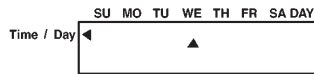

fig.12
- 2) Move it using the buttons $\downarrow\uparrow$ up to the current day (fig. 12)